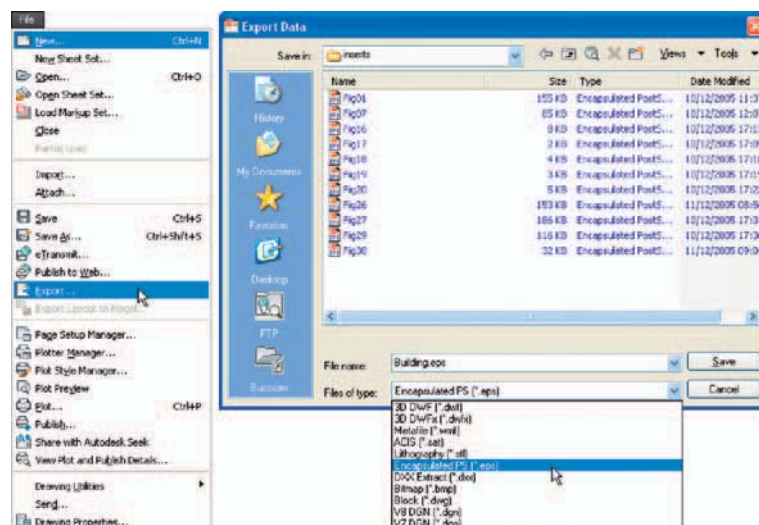

Fig. 10.3 Selecting the **Export** tool icon from the **File** drop-down menu and the **Export Data** dialog
1. With the same drawing on screen *click* on **Export...** in the **File** drop-down menu (Fig. 10.3). The **Export Data** dialog appears (Fig. 10.3). *Pick Encapsulated PS (*.eps)* from the **Files of type** pop-up list then *enter* a suitable file name (e.g. **building.eps**) in the **File name** field and *click* the **Save** button.